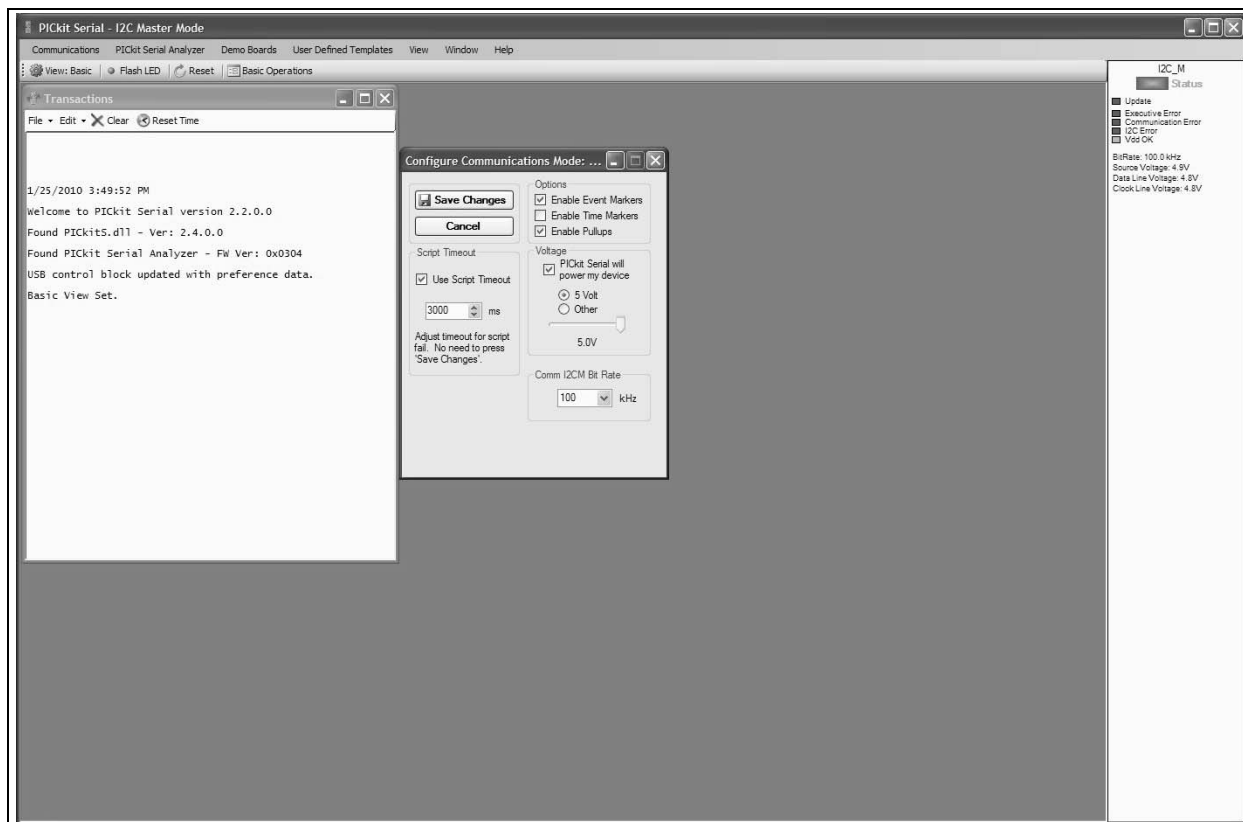
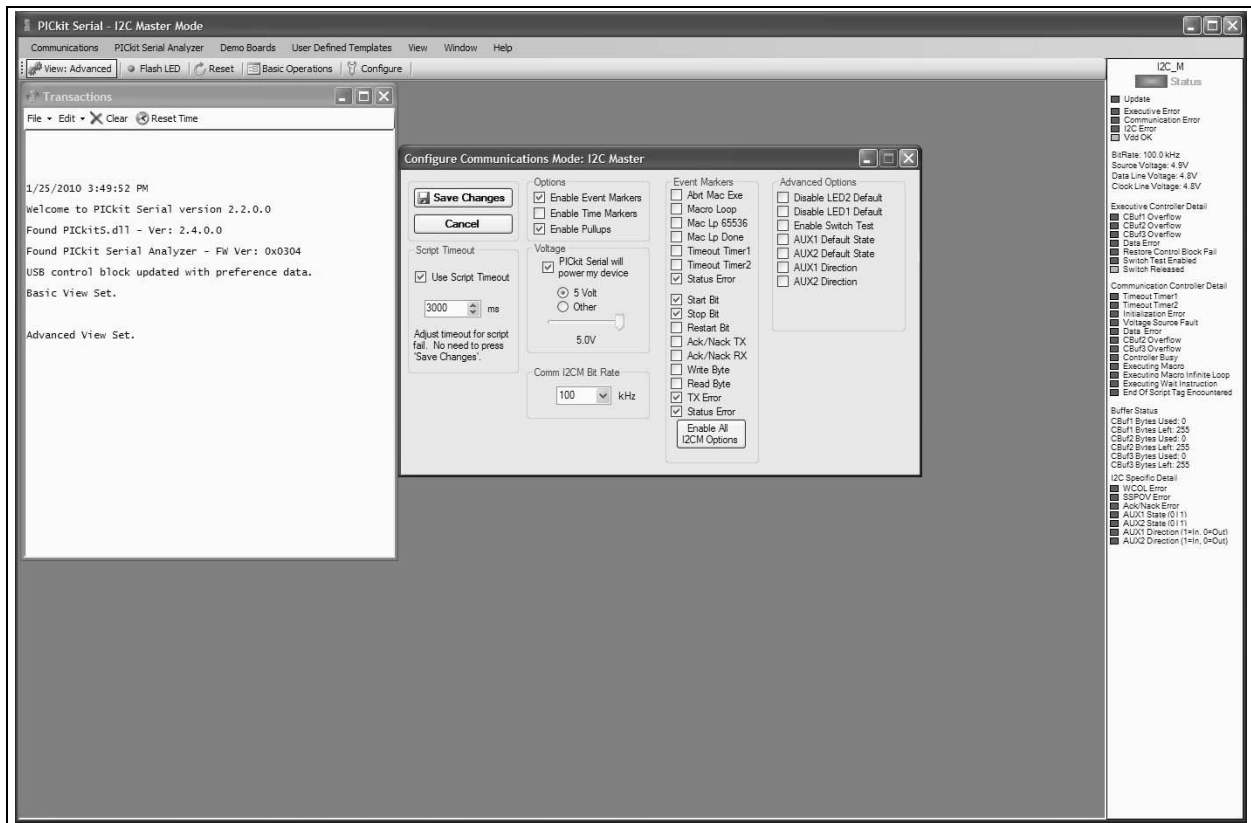

FIGURE 2-9: PICkit™ Serial Configure Communications Mode window - Basic View.
FIGURE 2-10: PICkit™ Serial Configure Communications Mode window - Advanced View.
Figure 2-9 shows the Configure Communications Mode window in Basic view while Figure 2-10 shows the Configure Communications Mode window in Advanced view. Ensure that your window options and settings are the same as this window, and then select the **Save Changes** button. The Configure Communications Mode window may now be closed. Ensure that the pull-ups are enabled, the board is powered if necessary, and the desired I2CM bit rate has been selected.
6. Ensure that the Master I²C configuration is appropriately configured (see Figure 2-9).